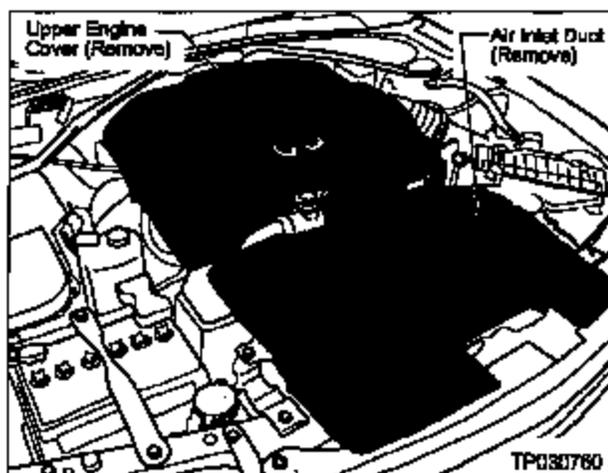

Figure 10
3. Remove the Upper Engine Cover and Air Inlet Duct (see Figure 10).